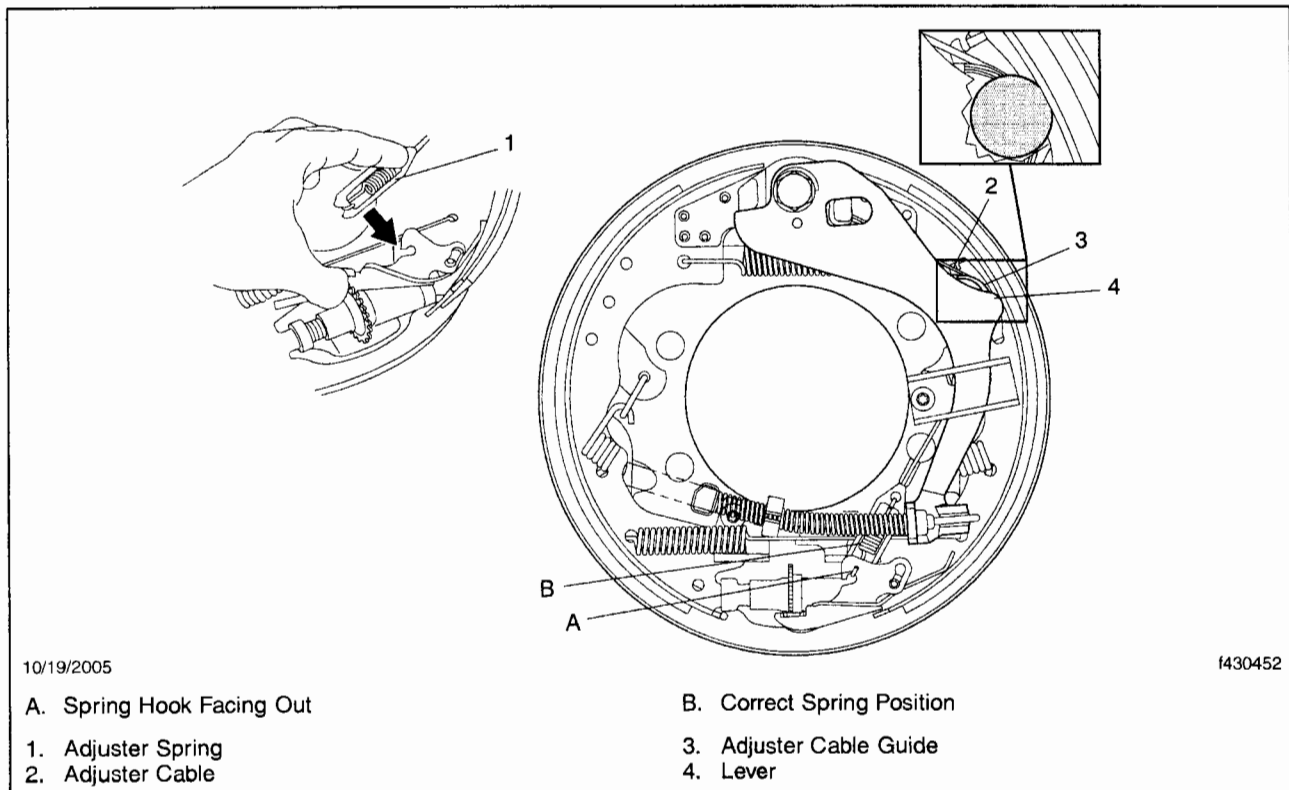

Fig. 7, Adjuster Cable Installation
15. Route the adjuster cable around the adjuster cable guide, under the shoe hold-down spring, and attach it to the adjuster lever. See **Fig. 7**.